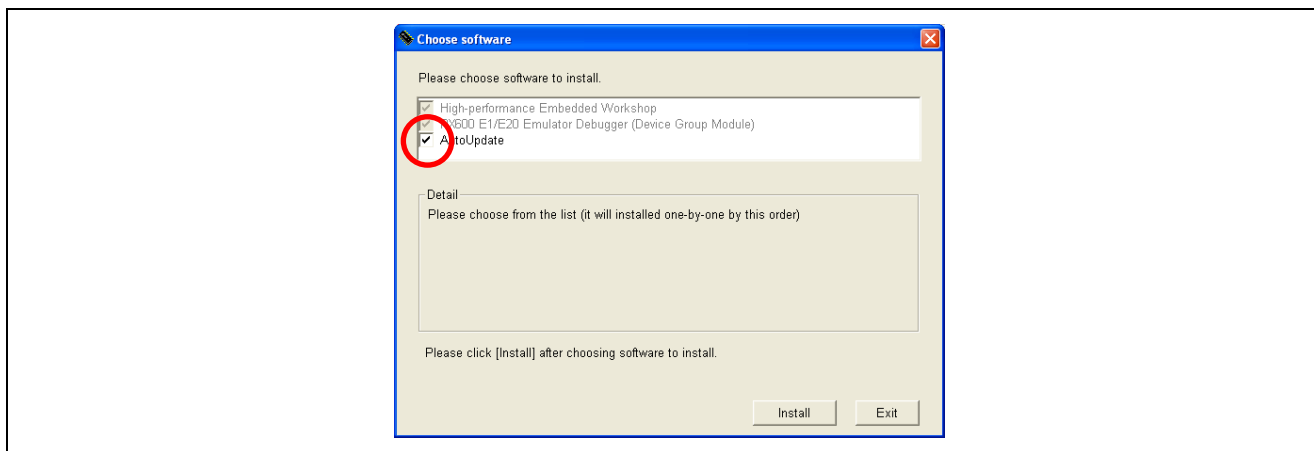

Figure 3.4 [Choose software]
- (5) The [Choose software] dialog box appears (Figure 3.4). Select the software products that you wish to install and click on the [Install] button.